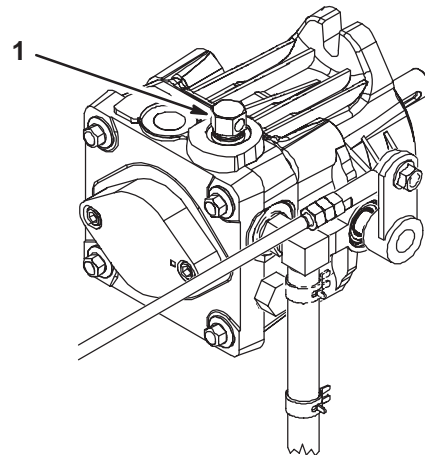

Figure 24
- Rotate the by-pass valves counterclockwise 1 turn to push. This allows hydraulic fluid to by-pass the pump enabling the wheels to turn (Fig. 24).
- Rotate the by-pass valves clockwise 1 turn to operate machine (Fig. 24).